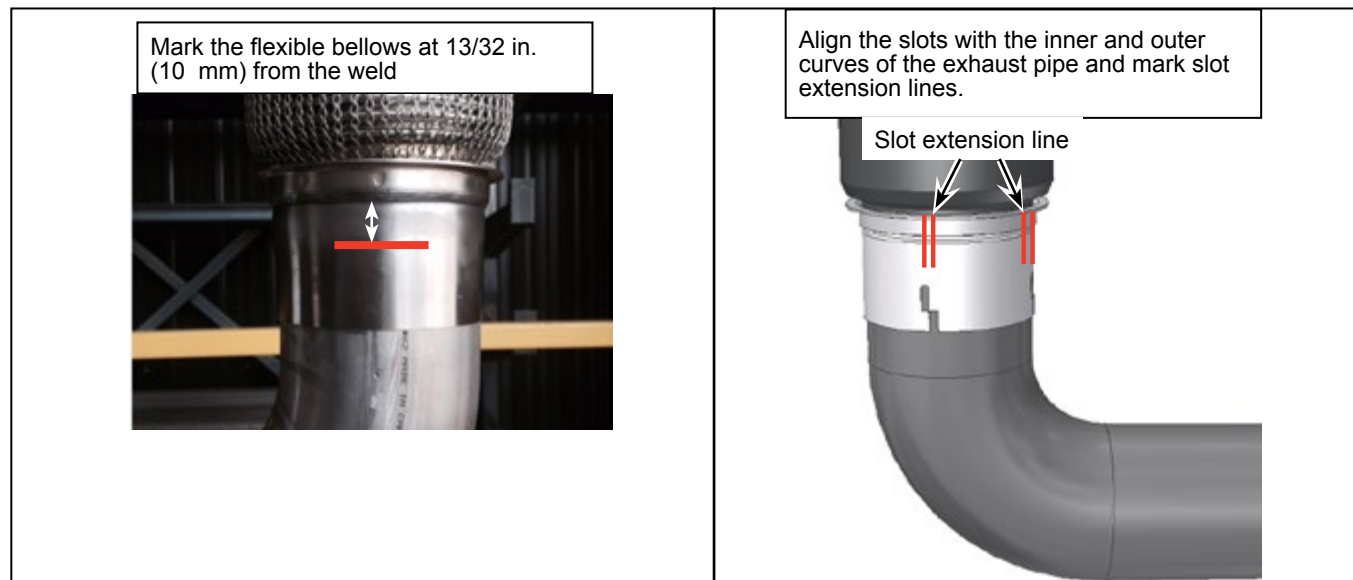

Figure 1 - Marking of the Flexible Bellows
- 1.5. Mark the flexible bellows 13/32 in. (10 mm) from the weld. See Figure 1.
- 1.6. Mark extension lines of the slots on the flexible bellows up to the flexible portion. See Figure 1.